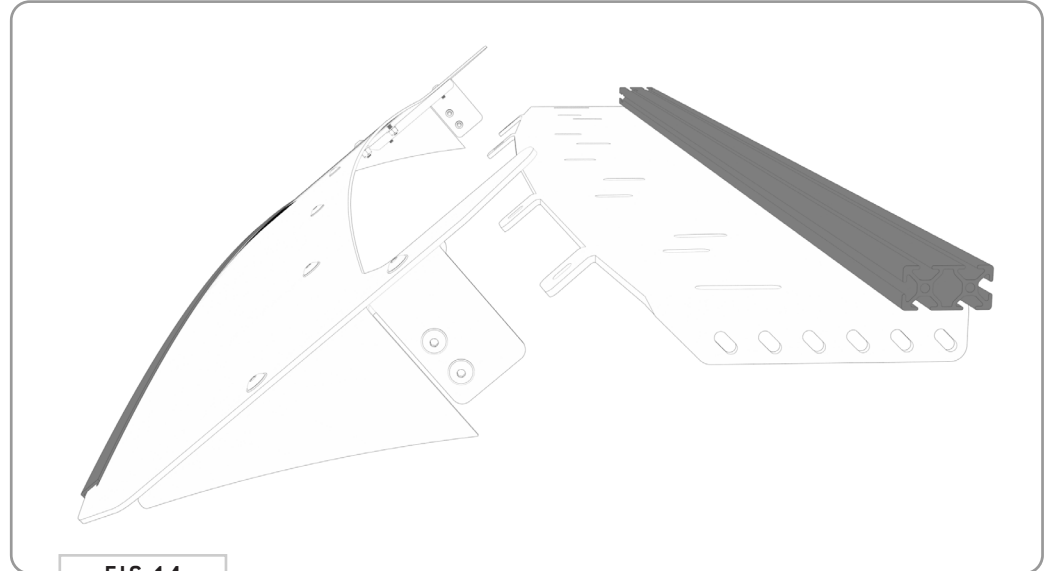

FIG 14
4.5 Attach Front Fairing: Attach the Front Fairing to the Assembly using 1/4-20 x 0.75 Flanged Button Head Screws, Flat Washers and Nylon Locknuts (FIG 14+15).